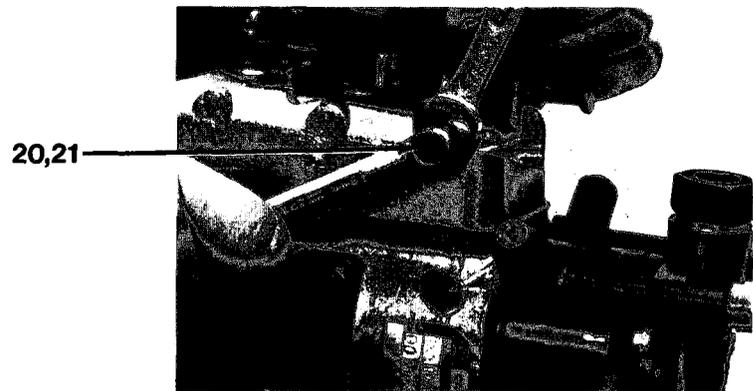

Figure 7-17
5. Remove screw assembly (20) and washer (21, Figure 7-17).